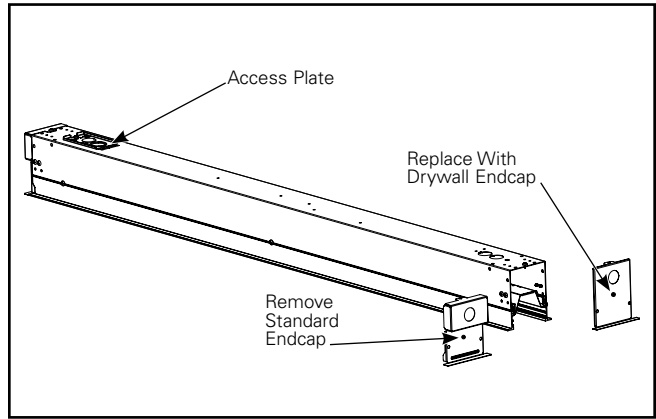

**Figure 1.**
1. Begin by removing the 4 grid clips at the corners of the fixture. See Figure 1.